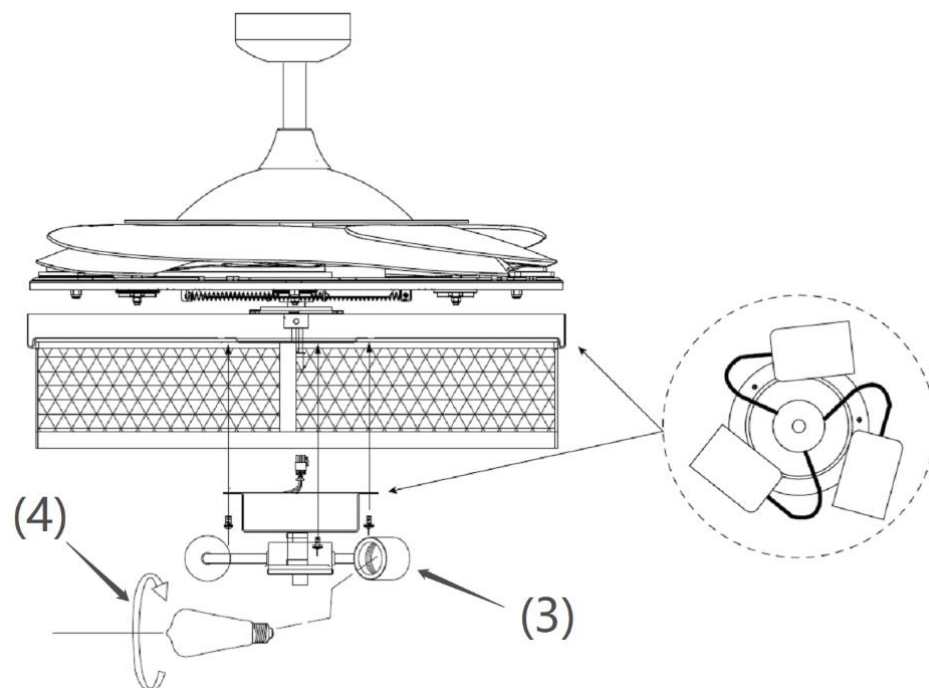

Fig. 8
4. Connect the quick connector to the lamp holder part (3). (Fig. 8)
5. Secure the lamp-holder part (3) to the light kit bracket by tightening the 3 screws. Do not over-tighten.
6. Install globes (4) into the lamp holders. Do not exceed the maximum power rating.